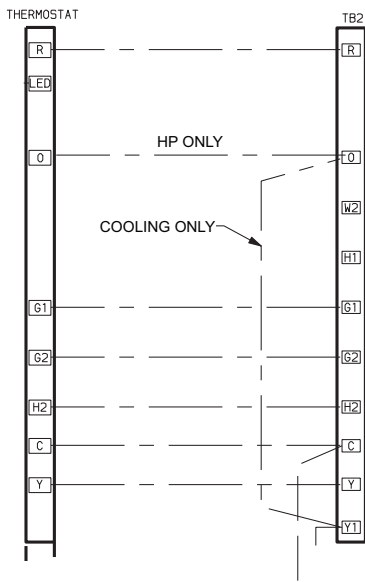
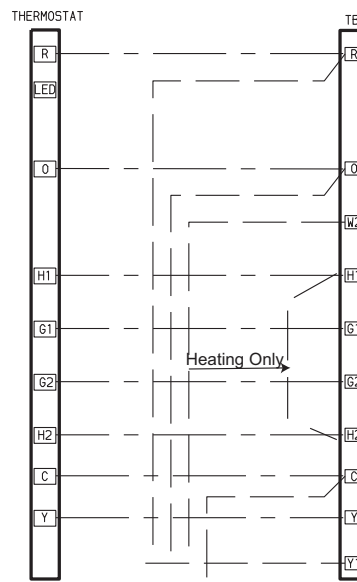

Fig. 25 - Thermostat Wire Connection for 40QAC
Fig. 26 - Thermostat Wire Connection for 40QQAQ
4. Connect the thermostat wires to the indoor unit per Fig 25 for a 40QAC unit and Fig. 26 for a 40QAQ unit.